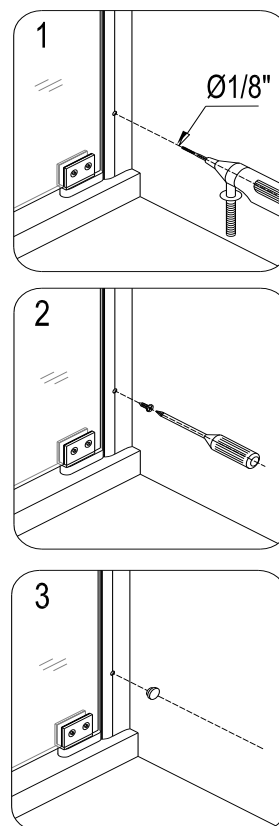

Fig. 10
10. Adjust the positions of the glass door and the return glass to ensure that the door is closing tightly. Drill the holes at the top, middle and bottom in the wall profile 1, and secure it to the glass profile 1 with **Countersunk screws ST4.2x16 (23)** and cover the exposed screw heads with **Decorative plugs (22)**. See Fig. 10 for details.